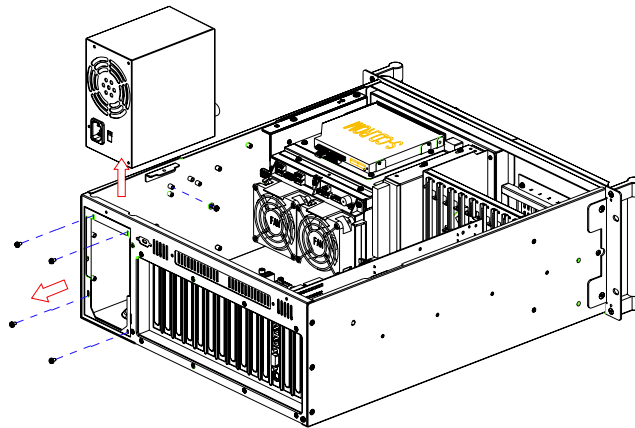

Figure 3.8: Replacing the single power supply
4. Loosen the six screws on the power supply bracket and then gently pull it up (see Figure 3.8).